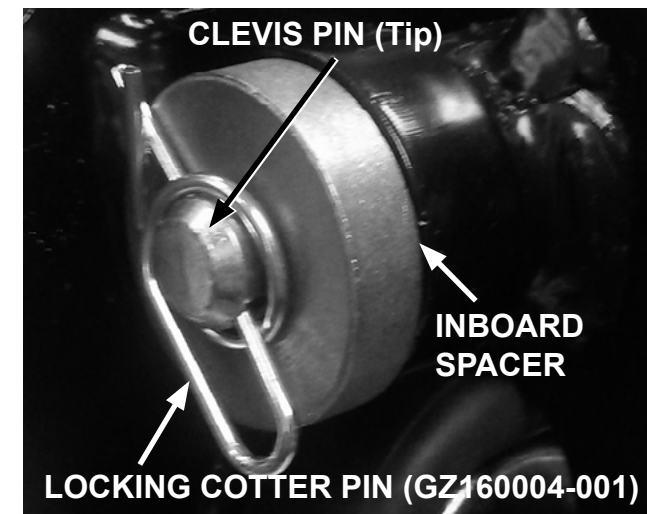

Figure 4
8. Install the new locking cotter pin (GZ160004-001), making sure that it is fully engaged over the tip of the clevis pin (See Figure 4).